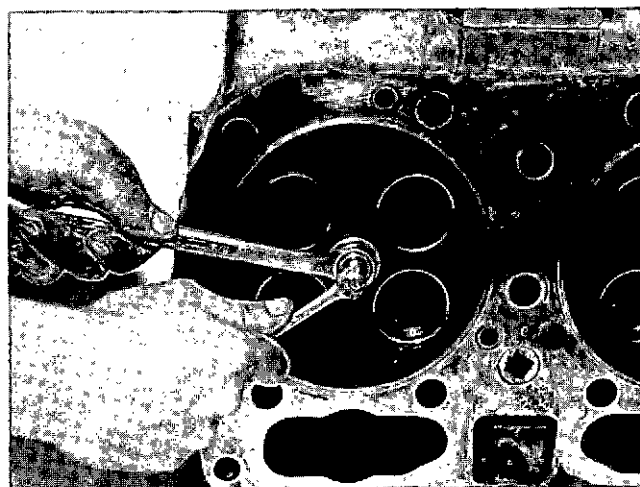

Fig. 2-2-3, V40204. Install injector sleeve holding tool
4. Install ST-384 injector sleeve holding tool; torque nut to 35 to 40 ft-lb [4.8405 to 5.5320 kg m]. Fig. 2-2-3.